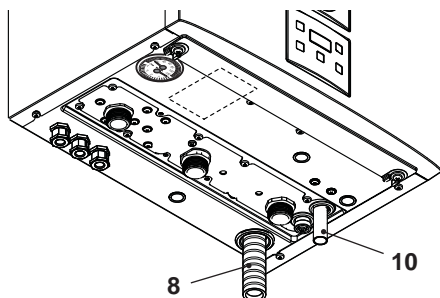

Fig. 6.4
- Connect the pipe 10 (Fig. 6.4) from the pressure relief valve to the safety discharge pipework.
- Fit the condensate drain 8 (Fig. 6.4) in the drainage pipework.